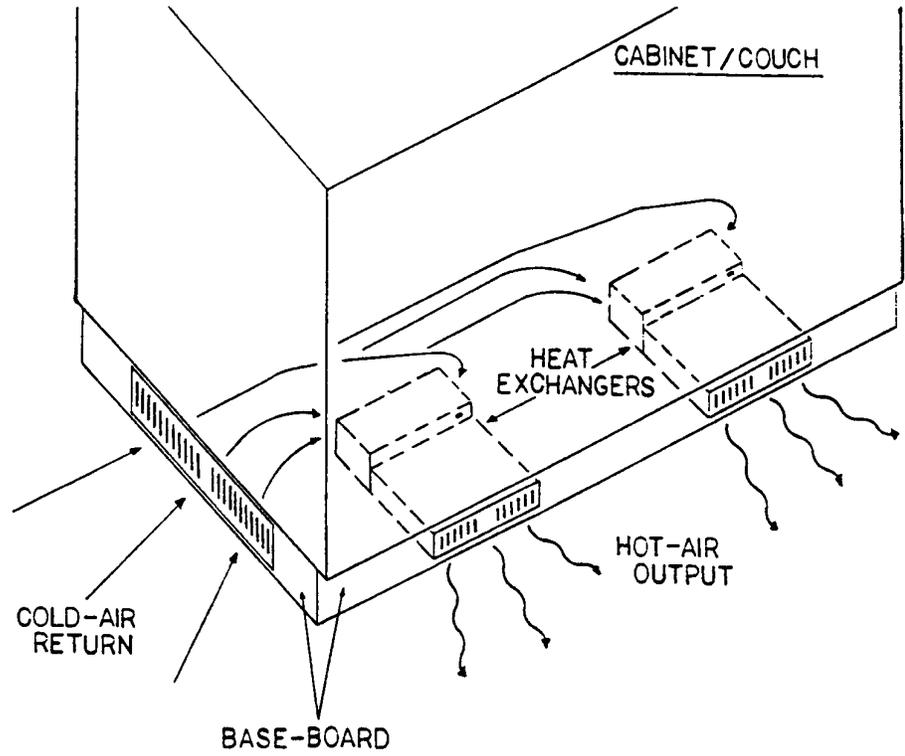

Figure 7
- B. Sufficient ventilation (return-air) must be supplied to each heat exchanger, see Figure 7. **Do not** mount heat exchanger(s) in areas that have no openings for return-air to enter. Mounting heat exchangers without sufficient ventilation will severely reduce their overall performance (heat output) and will also increase their overall noise level (due to cavitation). Return-air should be drawn in from the interior heating zone.
- A. If mounting a VSI Cozy heat exchanger (Part # 950120, 12 volt) the exchanger must be mounted flat on a smooth surface. Cozys **cannot** be mounted on their side, upside down, or in an upright position. For proper positioning, see Figures 7 and 8.